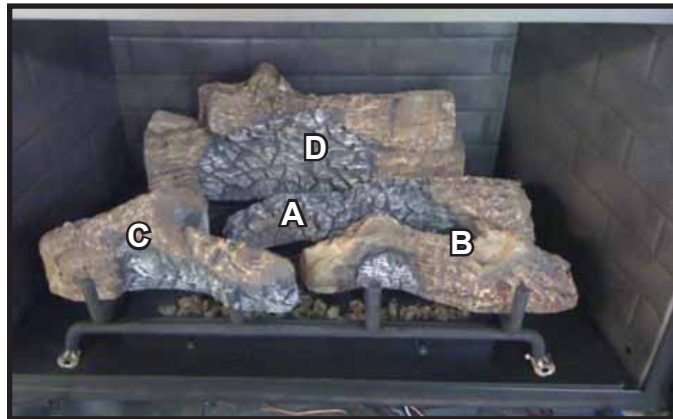

Figure 1. Base Logs
1. Base logs have been permanently mounted on the grate assembly. Do not attempt to remove or relocate the logs. See Figure 1.